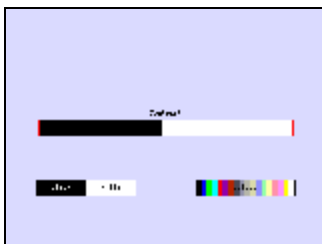

Fig2.7
- ① Select **Settings** from the main menu, and then select **Display**, the Fig 2.7 page will pop out;
- ② Adjust the optimum contrast with the touch pen and choose black/white or colour, the system will save the adjustment and return to the main menu automatically.